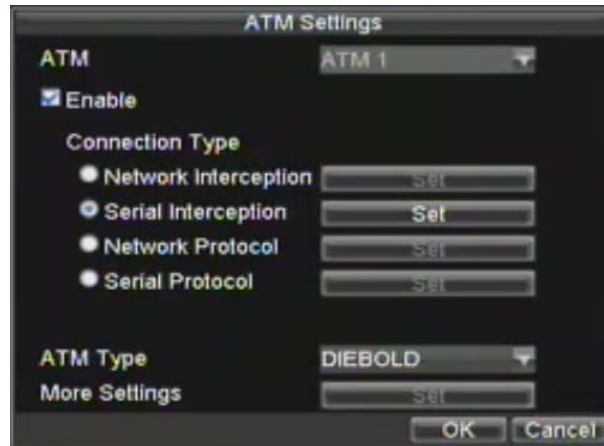

Figure 9. ATM Settings Menu
1. Enter **ATM Setting** menu, shown in Figure 9. Click Menu > Setting > ATM to enter ATM Settings menu.
3. ATM Type Settings, shown in Figure 9. The ATM type can be set to **DIEBOLD**, **DRS918** or **NCR_2**, or customized by selecting **Custom** from the list and clicking the **Set** button beside **More Settings** to enter the ATM Type Settings menu.